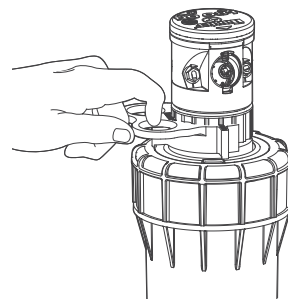

Figure 1
- 2 Slide the Arc Adjustment Riser Tool (P/N 382800SP) onto the gray adjustment ring below the nozzle turret (Figure 1).